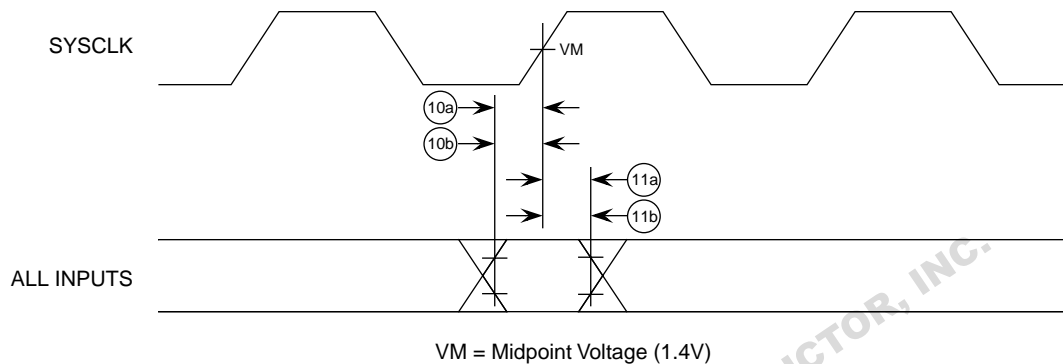
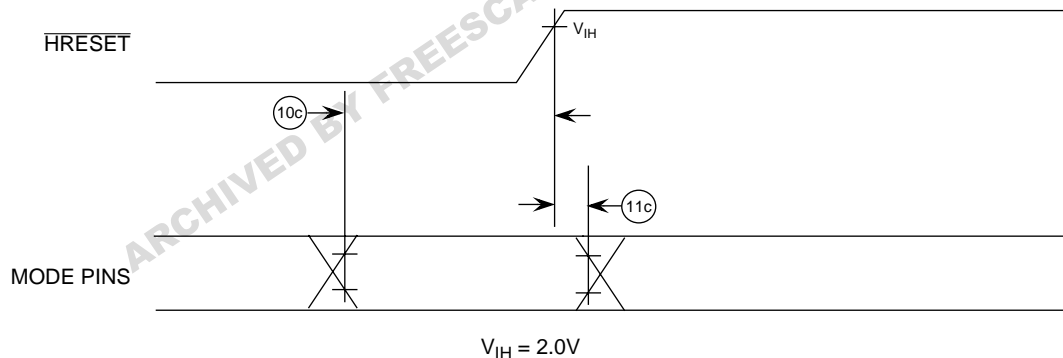

Figure 4. Input Timing Diagram
Figure 5. Mode Select Input Timing Diagram
Table 9 provides the 60x bus input AC timing specifications for the MPC750 as defined in Figure 4 and Figure 5. Input timing specifications for the L2 bus are provided in Section 1.4.2.5, “L2 Bus Input AC Specifications.”
- The setup and hold time is with respect to the rising edge of HRESET (see Figure 5).
Figure 4 provides the input timing diagram for the MPC750.
Figure 5 provides the mode select input timing diagram for the MPC750.